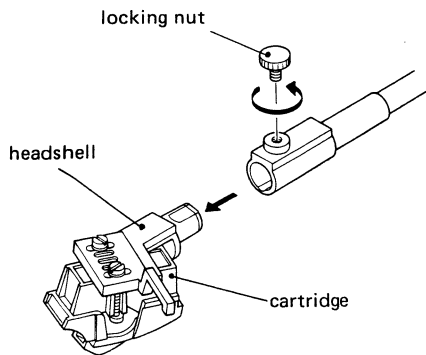

Fig. 3-2
7. Attach the headshell by inserting it into the locking nut at the end of the tonearm and slightly pushing it in the opposite direction of arrow in Fig. 3-2. Rotate the locking nut clockwise and tighten it firmly.